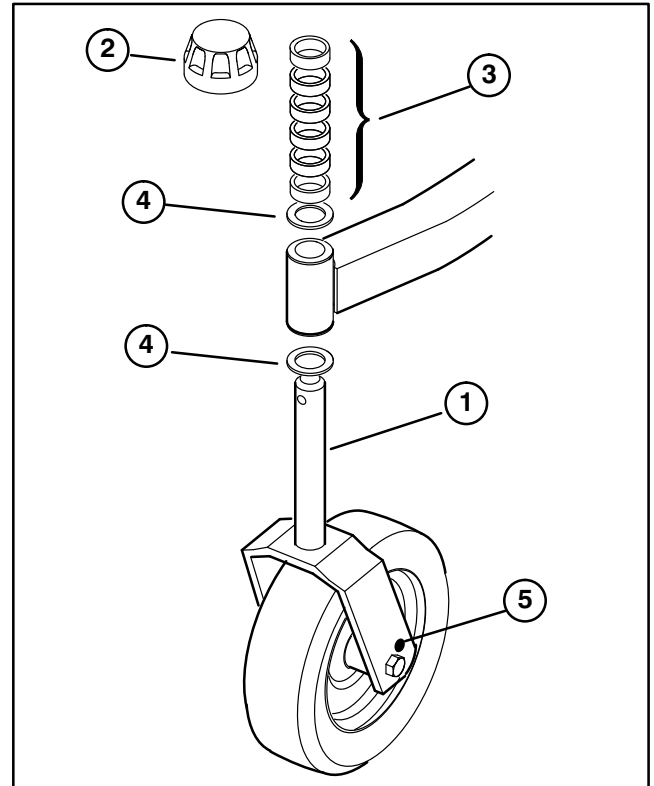

Figure 10
B. Drill out .438" dia. holes (Fig. 10 & 11) in each side of castor forks to .500" or .516" dia.